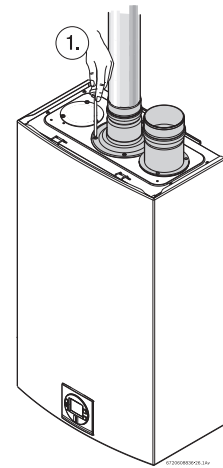

Fig. 16 Exhaust connection
- Attach the flue gas exhaust accessory to the top of the unit Fig. 16 (position 1) using the 4 screws and gasket provided, and fully insert vent pipe into the accessory. If using 4" venting, a 3" to 4" increaser should be installed directly after this accessory.